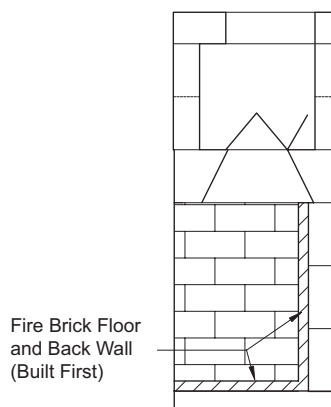

FIGURE 64
5. Set the side wall firebrick by starting at the front edge of the unit's side wall and working inward toward the back wall firebrick. The side wall firebrick, when completed, covers the 1/2" expansion gaps where both the floor firebrick and the back wall firebrick were held off the units side walls. **(Figure 64)**